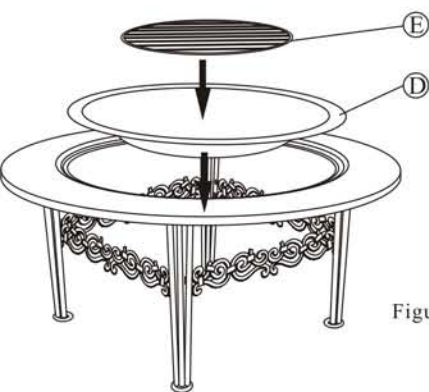

Figure 3
With the help of another person, carefully turn the Firepit to the upright position as shown in Figure 3. Place the steel Fire Bowl (D) onto the Tabletop Rim(A). Position the Iron Grate (E) in the center of the Fire Bowl.